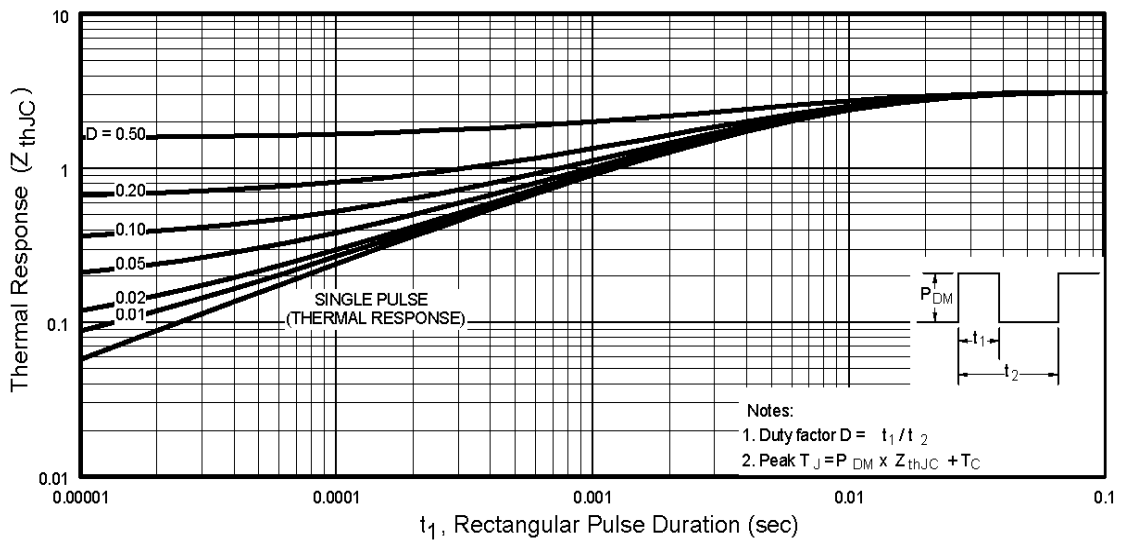

Fig 11. Maximum Effective Transient Thermal Impedance, Junction-to-Case
- ① Repetitive rating; pulse width limited by max. junction temperature. (See fig. 11)
- ② Starting $T_J = 25^\circ\text{C}$, $L = 4.7\text{mH}$